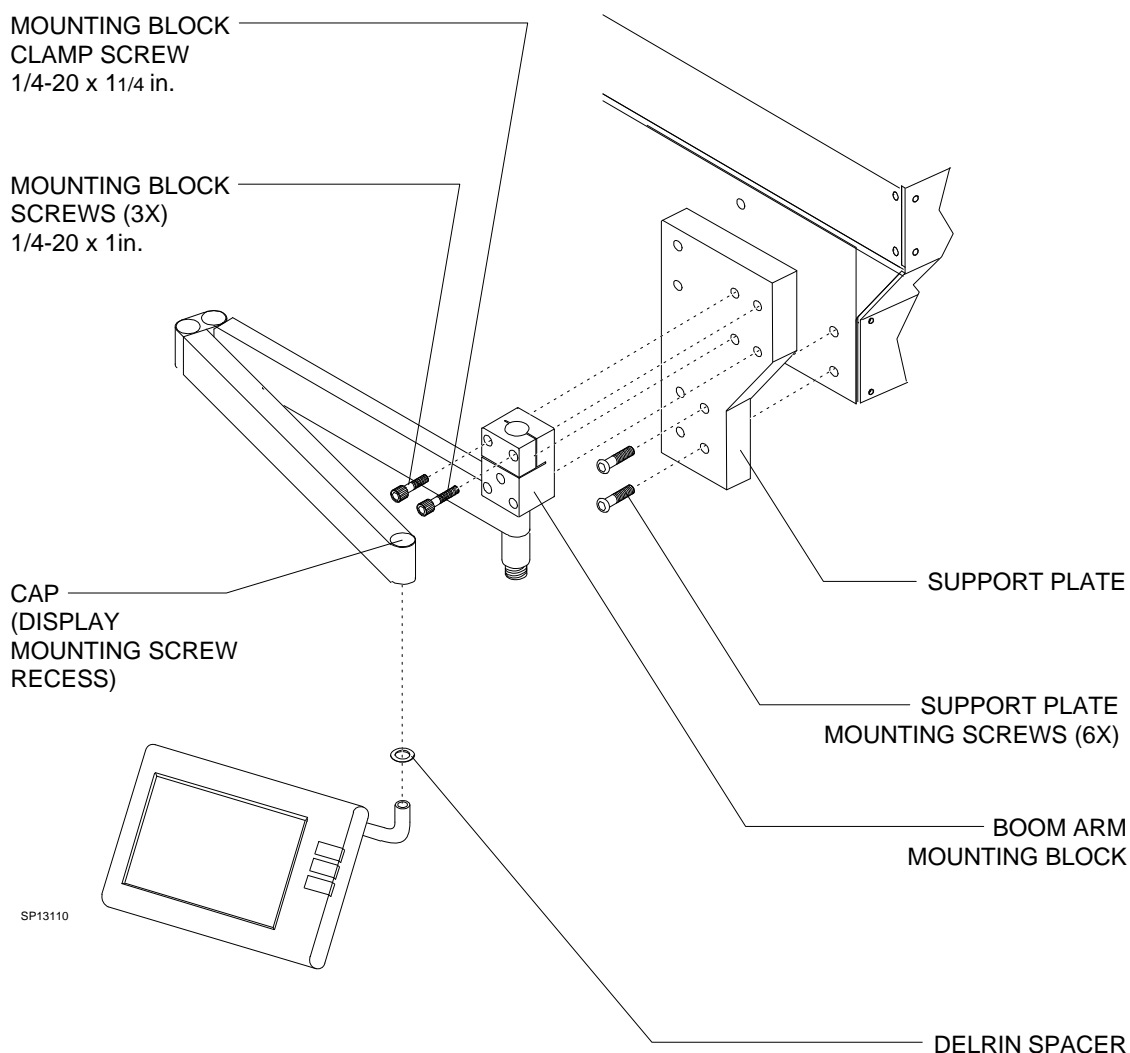

Figure 10: DISPLAY AND EXISTING BOOM ARM REMOVAL
42. Remove the plastic cap at the outboard end of the boom arm to expose the remote display mounting screw. See Figure 10.
45. If the machine is equipped with a support plate (see Figure 10) remove the support plate from the machine.